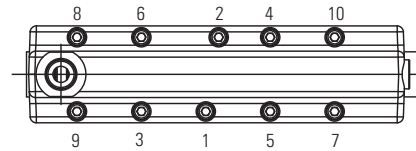

Figure 6
4.6.1 Apply 1 drop of Loctite® 290 in all 10 screw holes in the selector plate while ensuring that no air is trapped underneath the droplet. Install the gasket onto the selector plate. Place the spool housing assembly onto the gasket. Install and torque each of the 10 screws starting in the middle working outwards using the sequence in Figure 6. Torque each screw to 70 +/- 8 lbf-in.